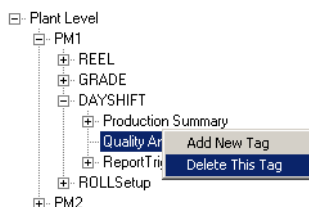

Figure 224. Example, Deleting a Machine
1. Select the object and choose **Delete This Tag** from the context menu, Figure 224. A confirmation message is displayed in the AdvHistProfCfg dialog: “Selected item and all subitems will be deleted”.